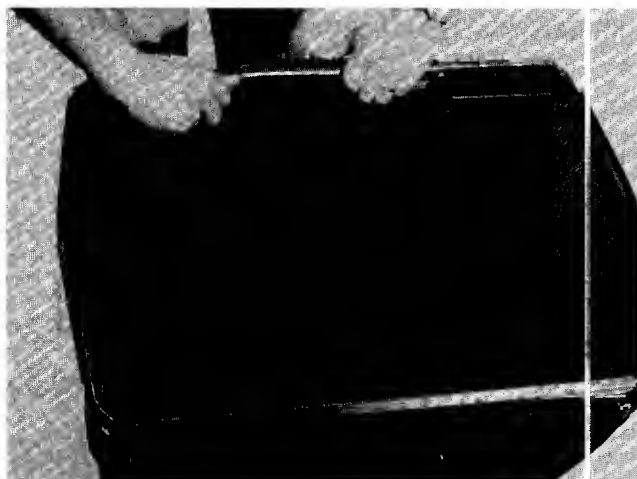

FIGURE 16.
4. Snap the plastic edge of grass bag over frame. See figure 16.